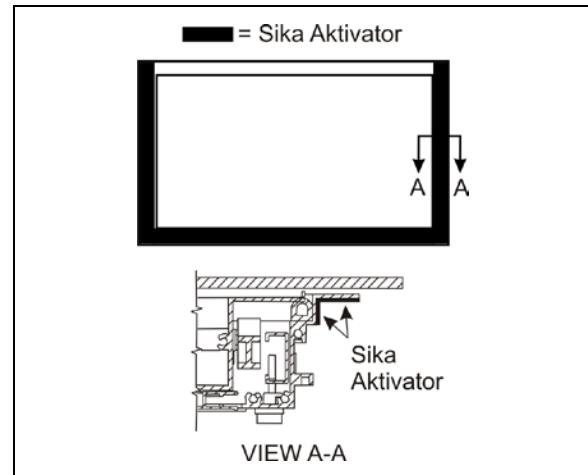

FIGURE 65: AWNING WINDOW – SIKA AKTIVATOR
- Apply Sika Aktivator as per FIGURE 65.